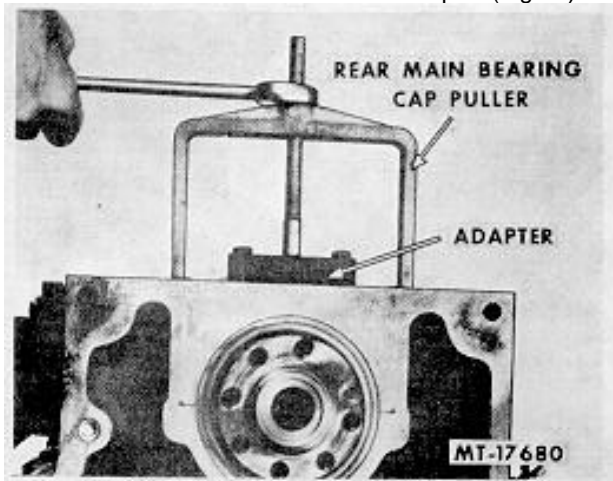

Fig. 62 Using SE-1719 Bearing Cap Puller and SE-1719-3 Adapter To Remove Rear Main Bearing Cap
61. Remove the rear, or No. 5, main bearing cap using SE-1719 Puller and SE-1719-3 Adapter (Fig. 62).